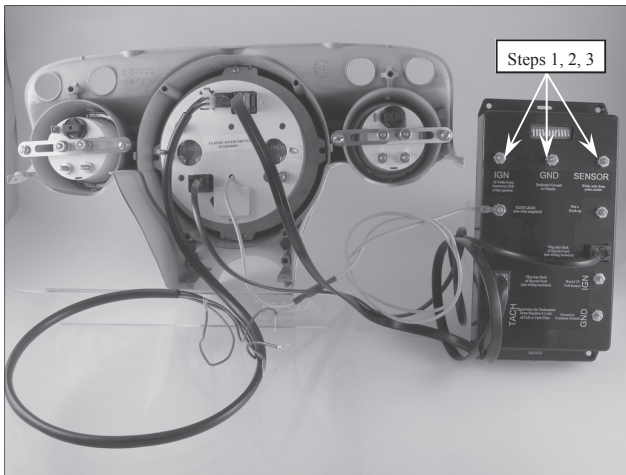

Figure 5
Step 2: Connect a good dedicated ground on the chassis to the terminal post marked GND, located directly under the dip switches. (Figure 5)
Step 3: Connect a dedicated 18-AWG wire from the accessory side of your keystack switch to the IGN terminal post. This is your power source. (Figure 5)